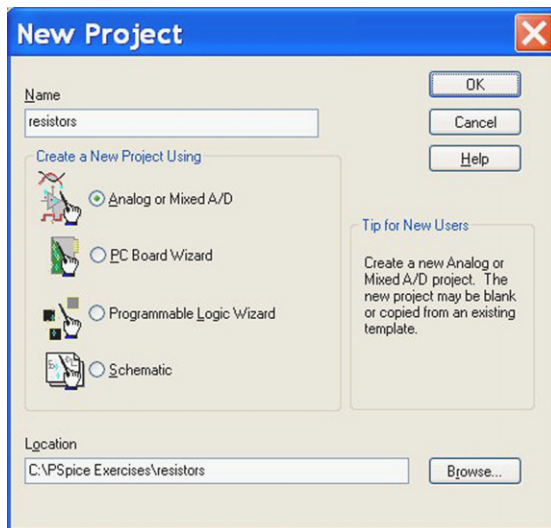

FIGURE 1.16
1. Select **File > New > Project**. Enter **resistors** for the **Name** and select **Analog or Mixed A/D**. In **Location**, enter C:\PSpice exercises\resistors or you can use your own folder location. Check your entries with Figure 1.16 and then click on **OK**.